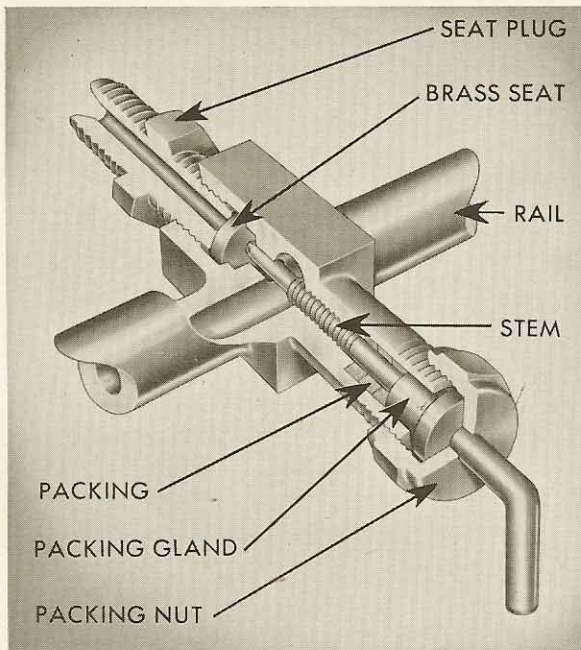

FIGURE 16-5
9. DISASSEMBLY: Reference to Figure 16-5 will show that the stem is turned to a smaller diameter from the end of the threads onto the valve face. This piece is hardened and is usually the location of a break. Disconnect the tube and screw out the seat plug. Remove the brass seat. Screw the broken stem out and remove the packing nut, gland and packing.